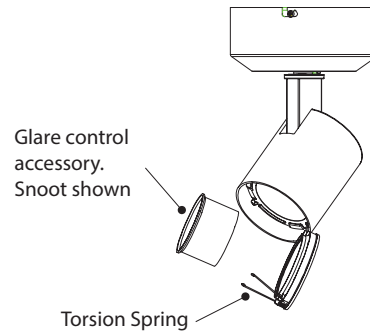

Fig 3
Step 2: Insert glare control accessory through the front frame. (See Fig 3)